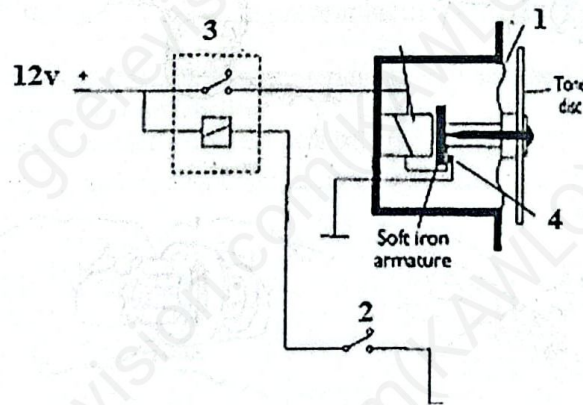

Figure 3: Horn circuit
b) Figure 3 below illustrates a horn circuit.
c) Identify the numbered parts 1, 2, 3 and 4 of figure 3 above. (2 marks)